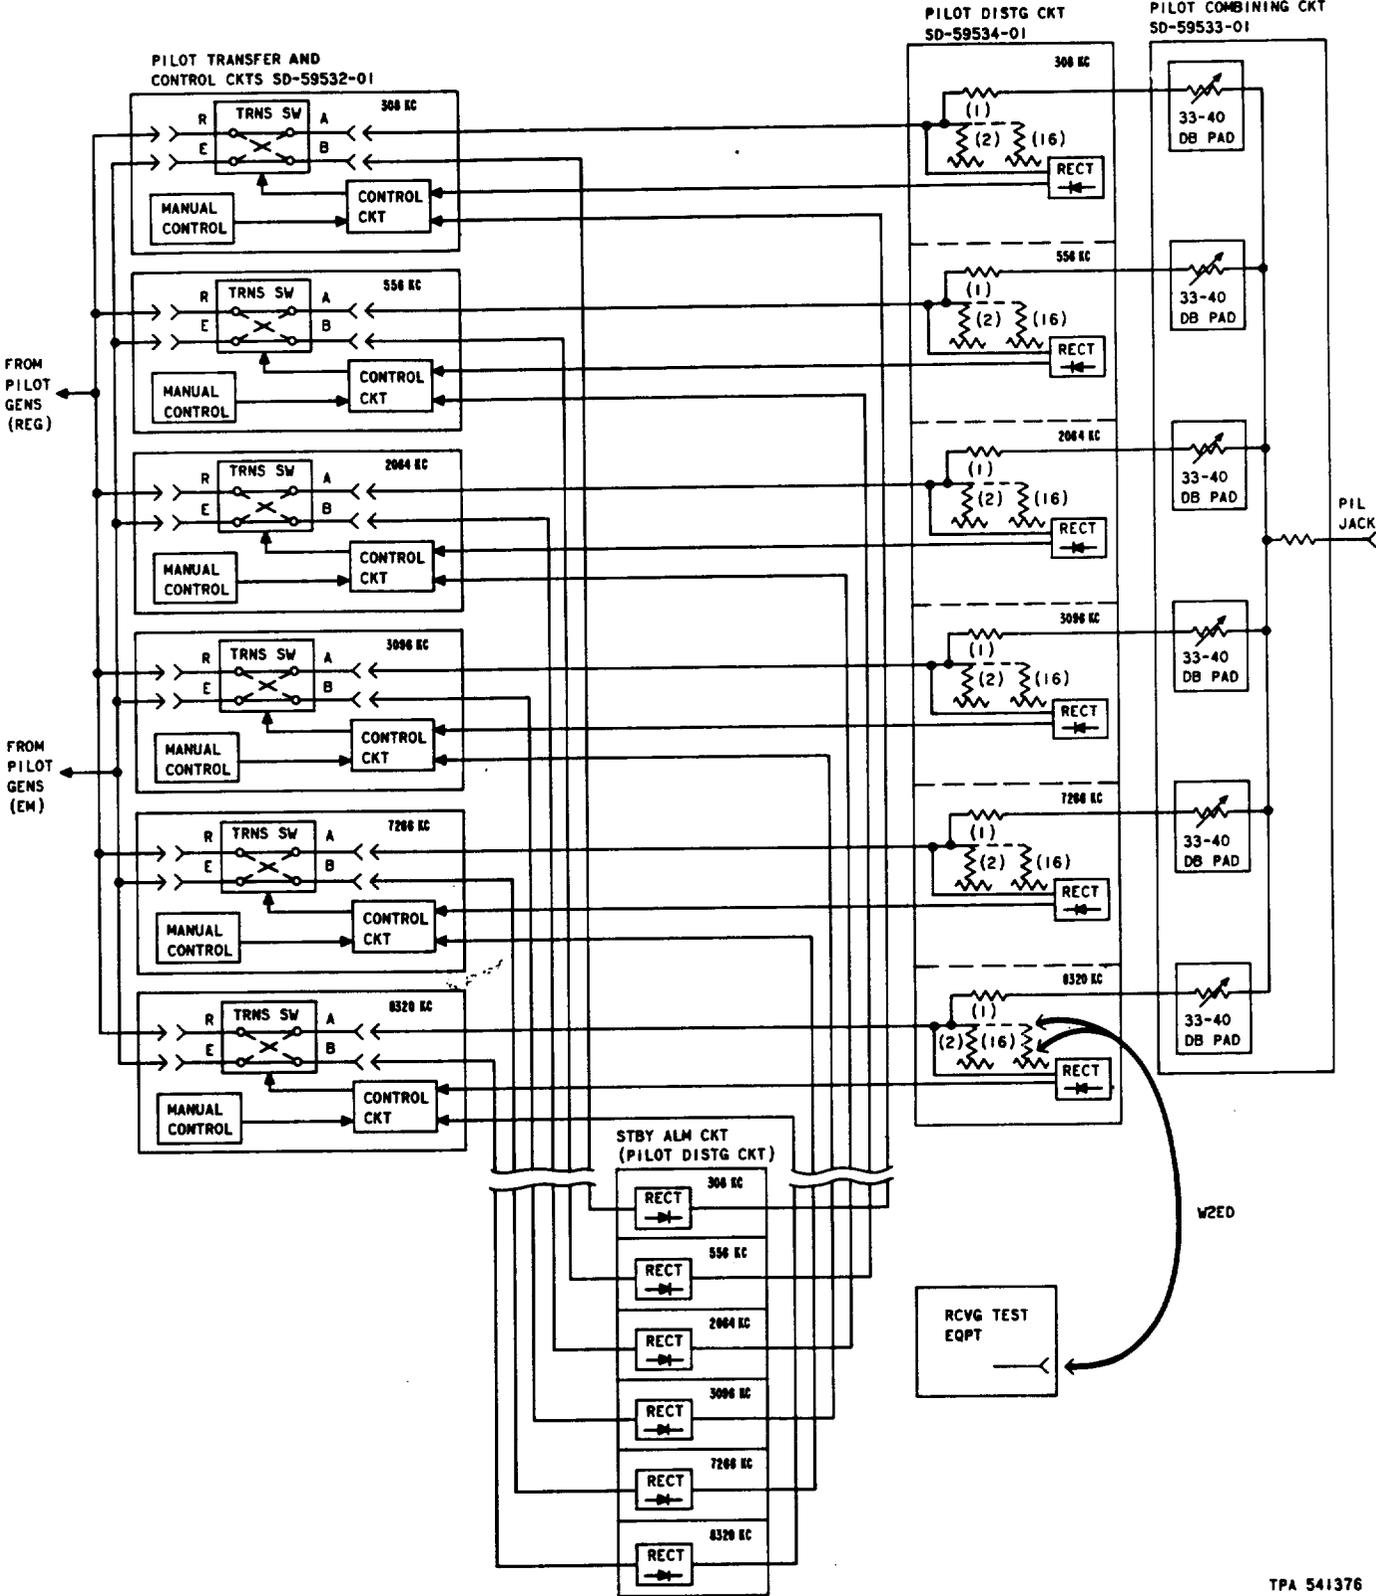

Fig. 1—L3 Pilot Distributing Circuit—Measurement of Distribution Bus Output Power
3	Connect the RTE to an unused bus tap for the frequency to be measured [patch (1), Fig. 1.]
8	Remove patch (1), Fig. 1.